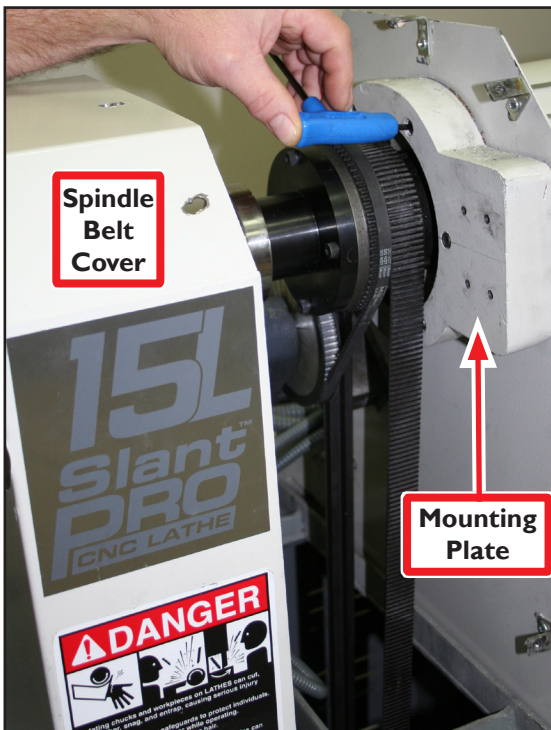

Figure 12
3. Loosen six Phillip's head screws and remove the Spindle Belt Cover (see **Figure 12**); set aside.
4. Loosen six socket head cap screws attaching Mounting Plate to headstock enough to create a Side Cutout Gap (see **Figures 12 and 13**).
- 16.** Re-tighten six Mounting Plate bolts snugly (see **Figure 12**).
17. Re-attach Spindle Belt Cover using six Phillip's head screws (see **Figure 12**).